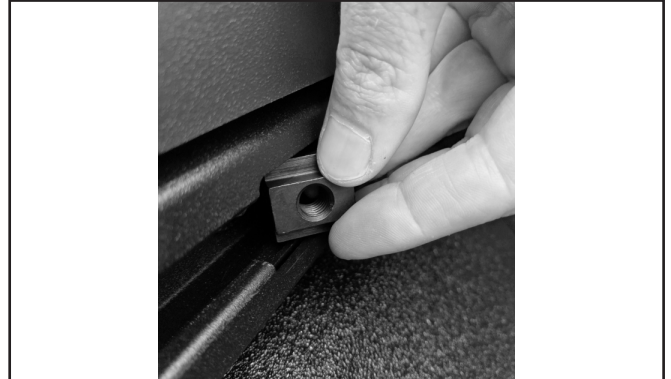

Figure 1: Inserting threaded nut plate into in-bed rail system
- 1** Insert 4 of the threaded nut plates into the driver's side channel of the in-bed rail system. Slide two threaded plates towards the rear of the vehicle and keep two threaded plates near the front of the vehicle. Repeat this process on the passenger's side of the vehicle (Figure 1).